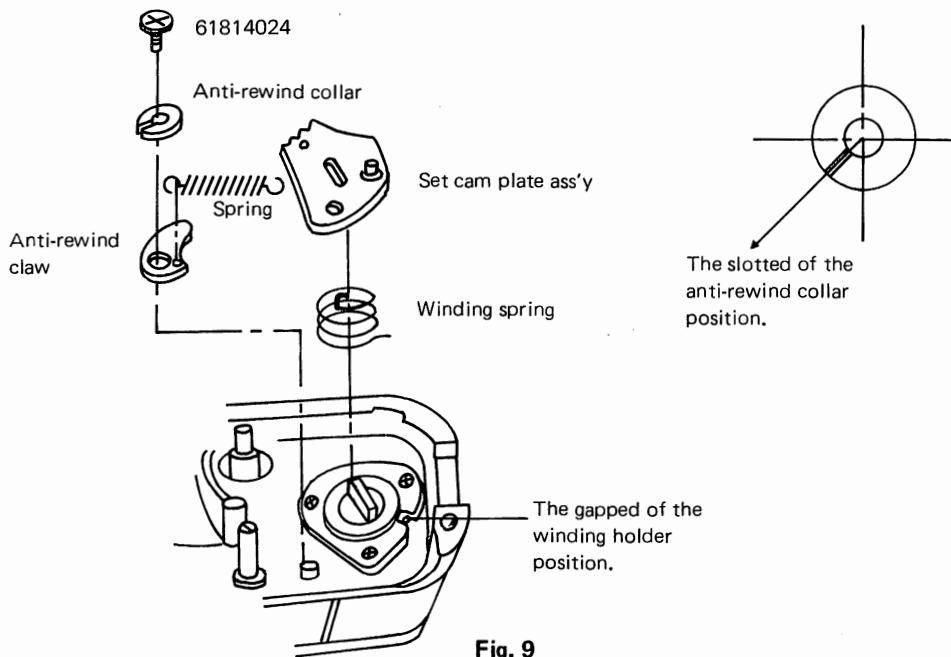

Fig. 9
(5) Mount the anti-rewind claw and the anti-rewind claw collar at the position shown in the Fig. 9.